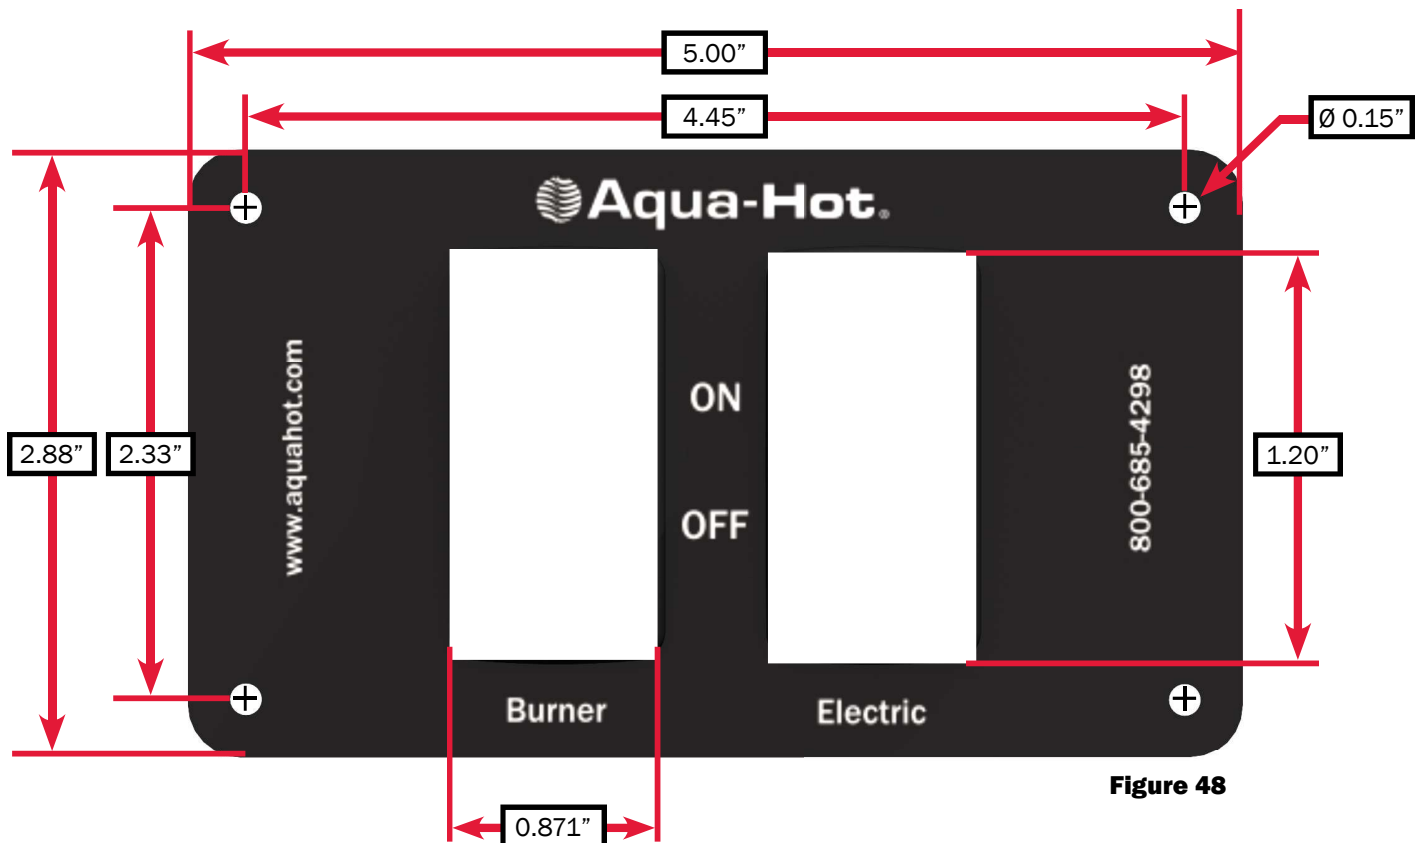

Figure 48
1. Cut out a 3.75" W x 1.25" H opening for the switch panel plate. Reference Figure 48.